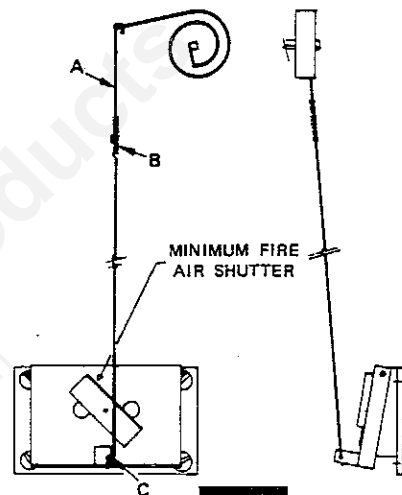

FIG. 10
The rate of burning at the low setting can be further adjusted by opening or closing the minimum fire air shutter (Fig. 10) on the draft control door.
A. To increase the amount of heat at a "HIGH" setting, adjust the wire linkage to increase the draft damper opening (Fig. 10).